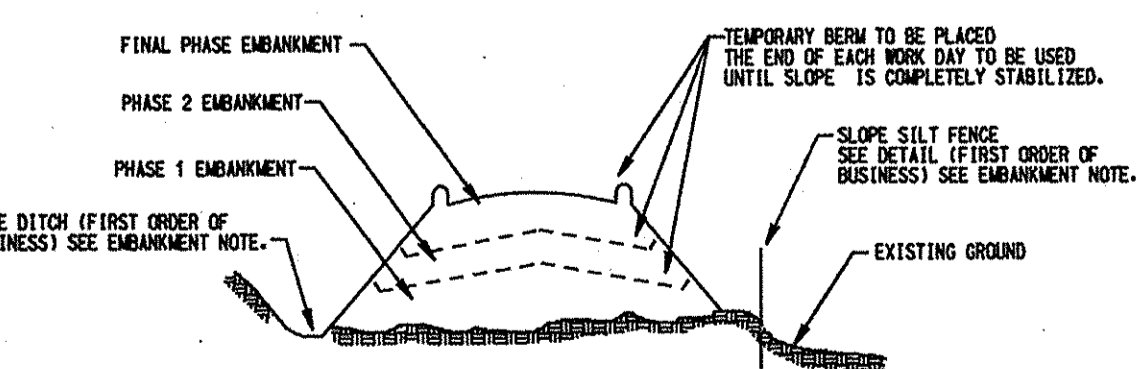

Figure 5 Incremental Stabilization - Fill
4. Construction sequence: Refer to Figure 5 (below).
- 1. Select one or more of the species or mixtures listed in Table 26 for the appropriate Plant Hardiness Zone (from Figure 5) and enter them in the Temporary Seeding Summary below, along with application rates, seeding dates and seeding depths.
- 1. Select one or more of the species or mixtures listed in Table 25 for the appropriate Plant Hardiness Zone (from Figure 5) and enter them in the Permanent Seeding Summary below, along with application rates and seeding dates.